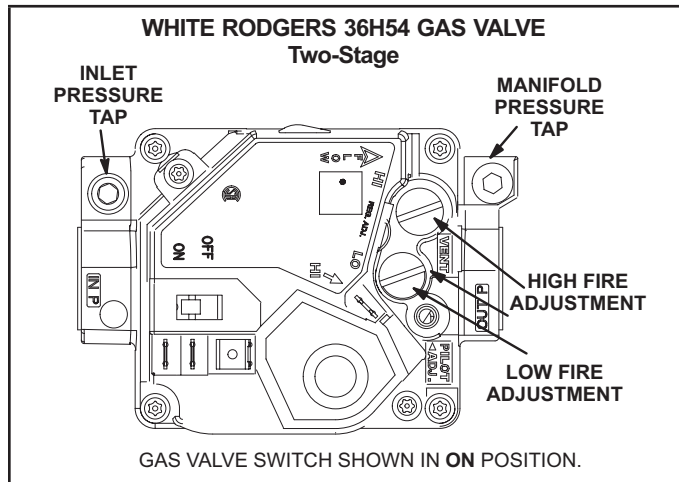
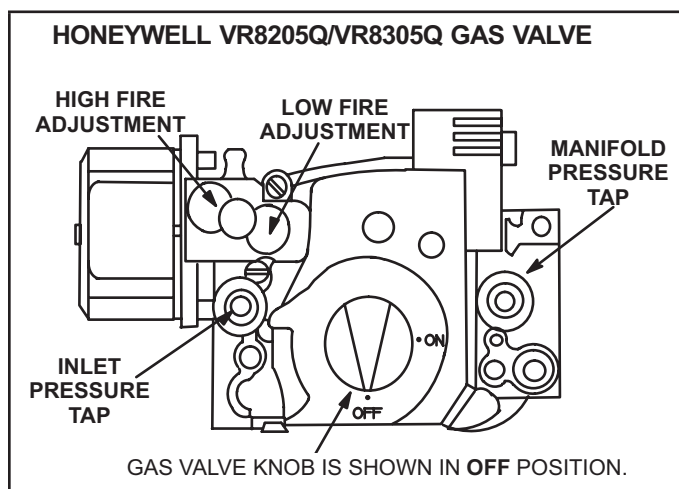

FIGURE 25
FIGURE 26
Gas Valve Operation for Honeywell VR8205Q/VR8305Q and White Rodgers 36H54 (FIGURE 25 and FIGURE 26).
- 5 - Turn gas valve switch to **OFF**. See FIGURE 25. On Honeywell VR8305Q gas valves, turn the knob on the gas valve clockwise to **OFF**. Do not force. See FIGURE 26.
- 6 - Wait five (5) minutes to clear out any gas. If you then smell gas, **STOP!** Immediately call your gas supplier from a neighbor's phone. Follow the gas supplier's instructions. If you do not smell gas, go to the next step.
- 7 - Turn gas valve switch to **ON**. See FIGURE 25. On Honeywell VR8305Q gas valves, turn the knob on the gas valve counterclockwise to **ON**. Do not force. See FIGURE 26.